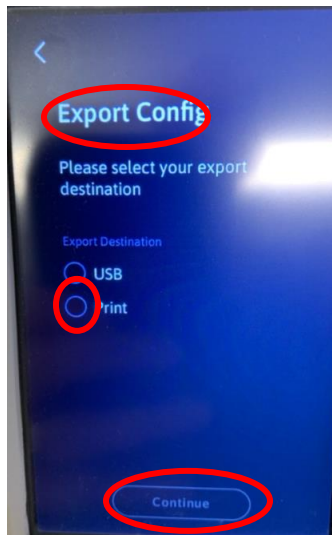

Figure 2
1.2. Select Print radial button and select Continue per Figure 2. Store printout for use on step 10.3.